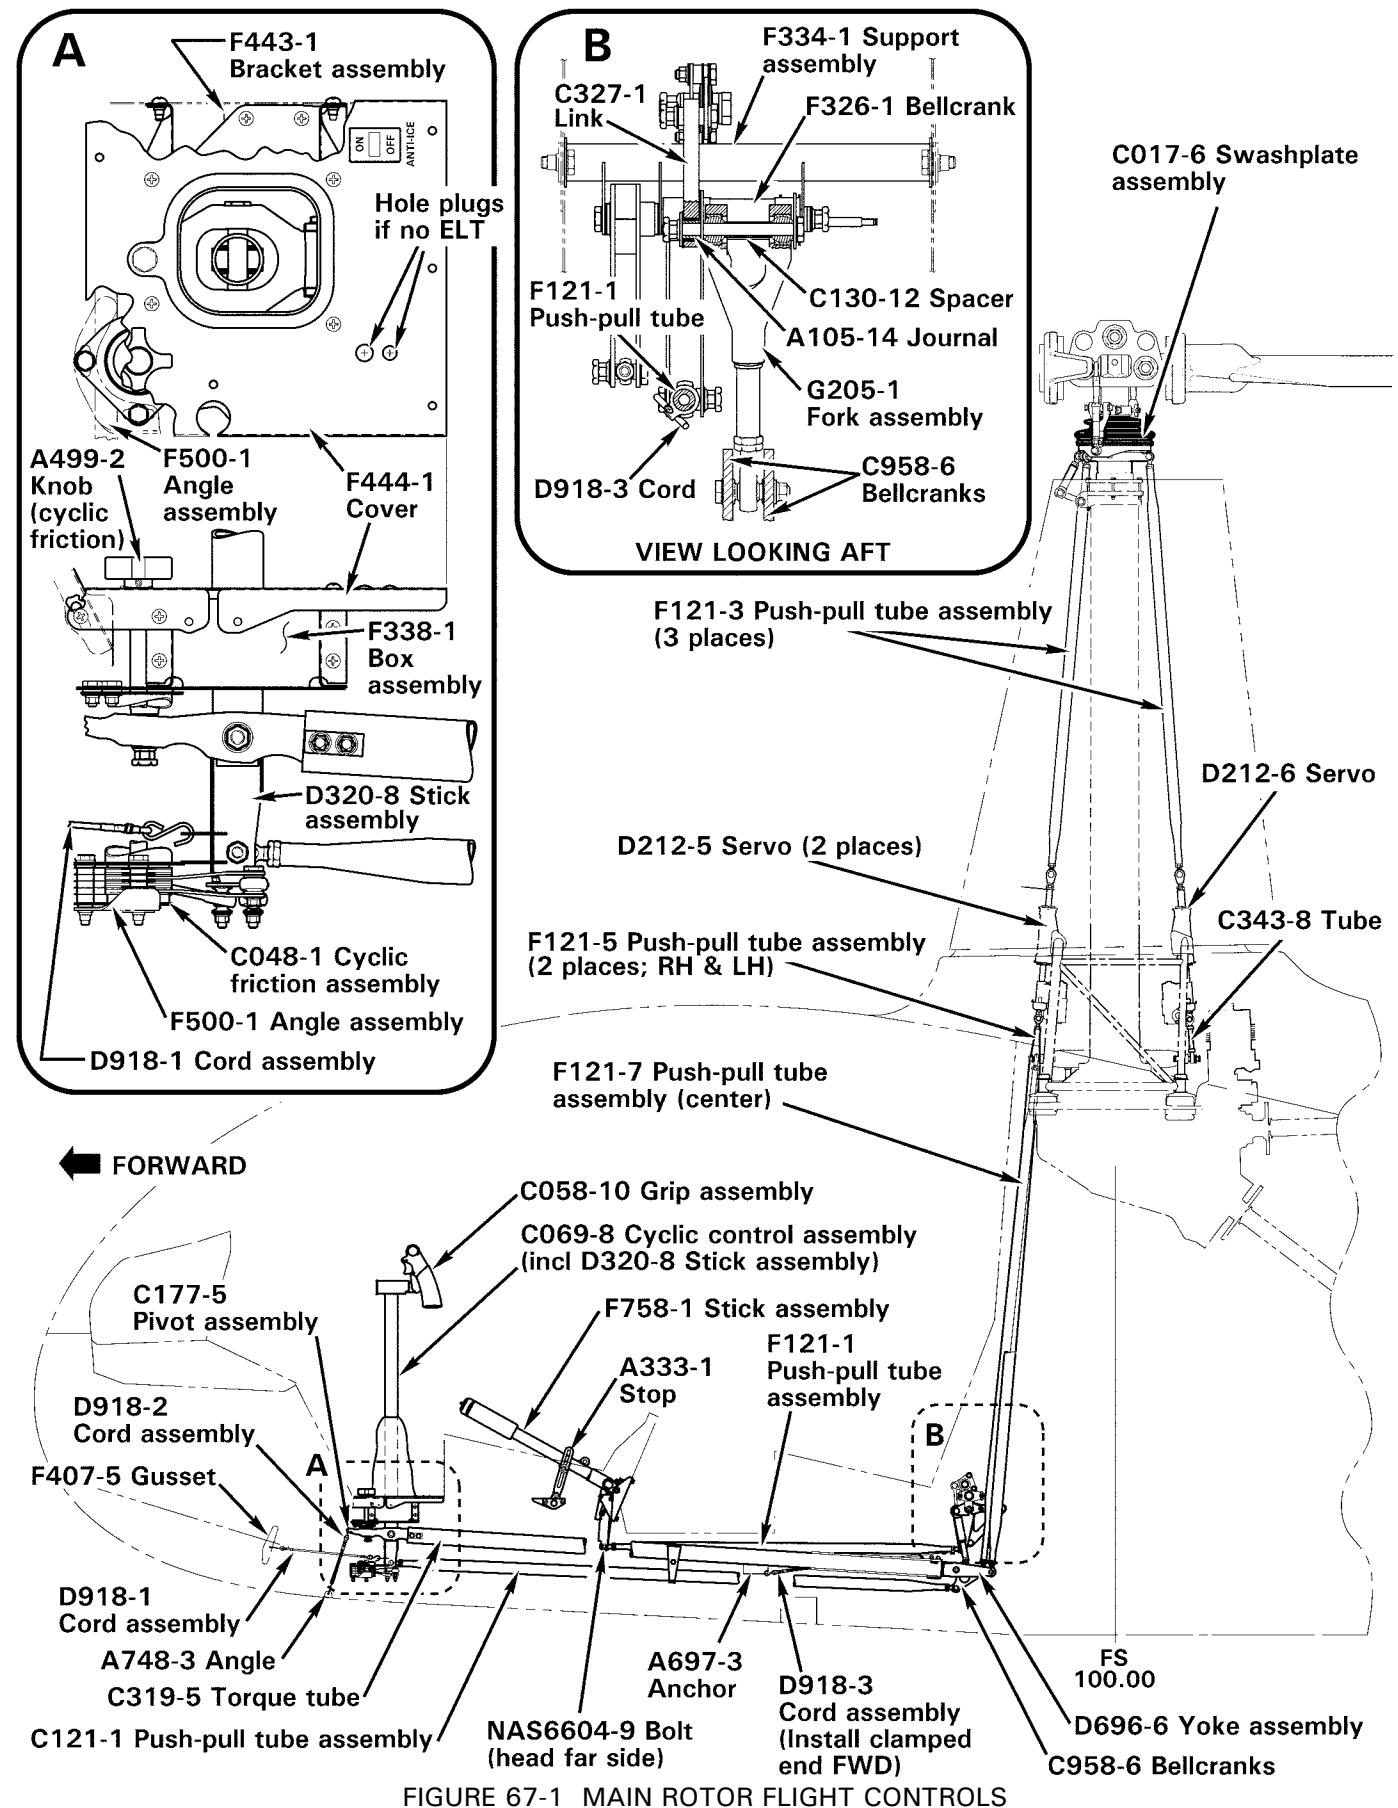

FIGURE 67-1 MAIN ROTOR FLIGHT CONTROLS
3. Refer to Figure 67-1. Unhook D918-1 cord assembly from C069-8 (cyclic) stick assembly and D918-2 cord assembly from C177-5 pivot assembly.
1. Refer to Figure 67-1. Verify center-to-center distance between rod end and spherical bearings in G205-5 fork is  $5.40 \pm 0.03$  inches; adjust as required. Standard torque jam nut and palnut per Section 20-32. Install C175-5 cyclic pivot assembly (torque tube, yoke, bellcranks, fork, and push-pull tube assemblies) thru aft belly.
2. Refer to Figure 67-1. Disconnect wiring connectors attached to wiring exiting base of D320-8 cyclic stick. Using pin extractor, remove pins from housings (wires 112, 138, & 355 may remain installed) and retain housings. Remove lacing tape from both ends of protective sleeving covering wires exiting base of stick assembly. Attach a 3 foot length of safety wire or wire lacing tape to one removed pin.
1. Refer to Figure 67-1. Ensure protective sleeving covers wires exiting grip assembly with one grommet in grip and one (for cyclic stick) on wire bundle (spare grommets may be installed if desired).
1. Refer to Figure 67-1. Disconnect A333-1 collective-travel stop from F348-1 anchor by removing NAS6603 bolt at bottom of stop. Position stop parallel to collective stick and apply collective friction.
1. Refer to Figure 67-1. Position A333-1 collective-travel stop parallel to collective stick and apply collective friction. From aft side of co-pilot's seat, carefully position collective stick assembly in helicopter.
NAS6604-9 bolt connecting forward end of F121-1 push-pull tube to collective must be installed so bolt head is toward right side of helicopter. Refer to Figure 67-1.